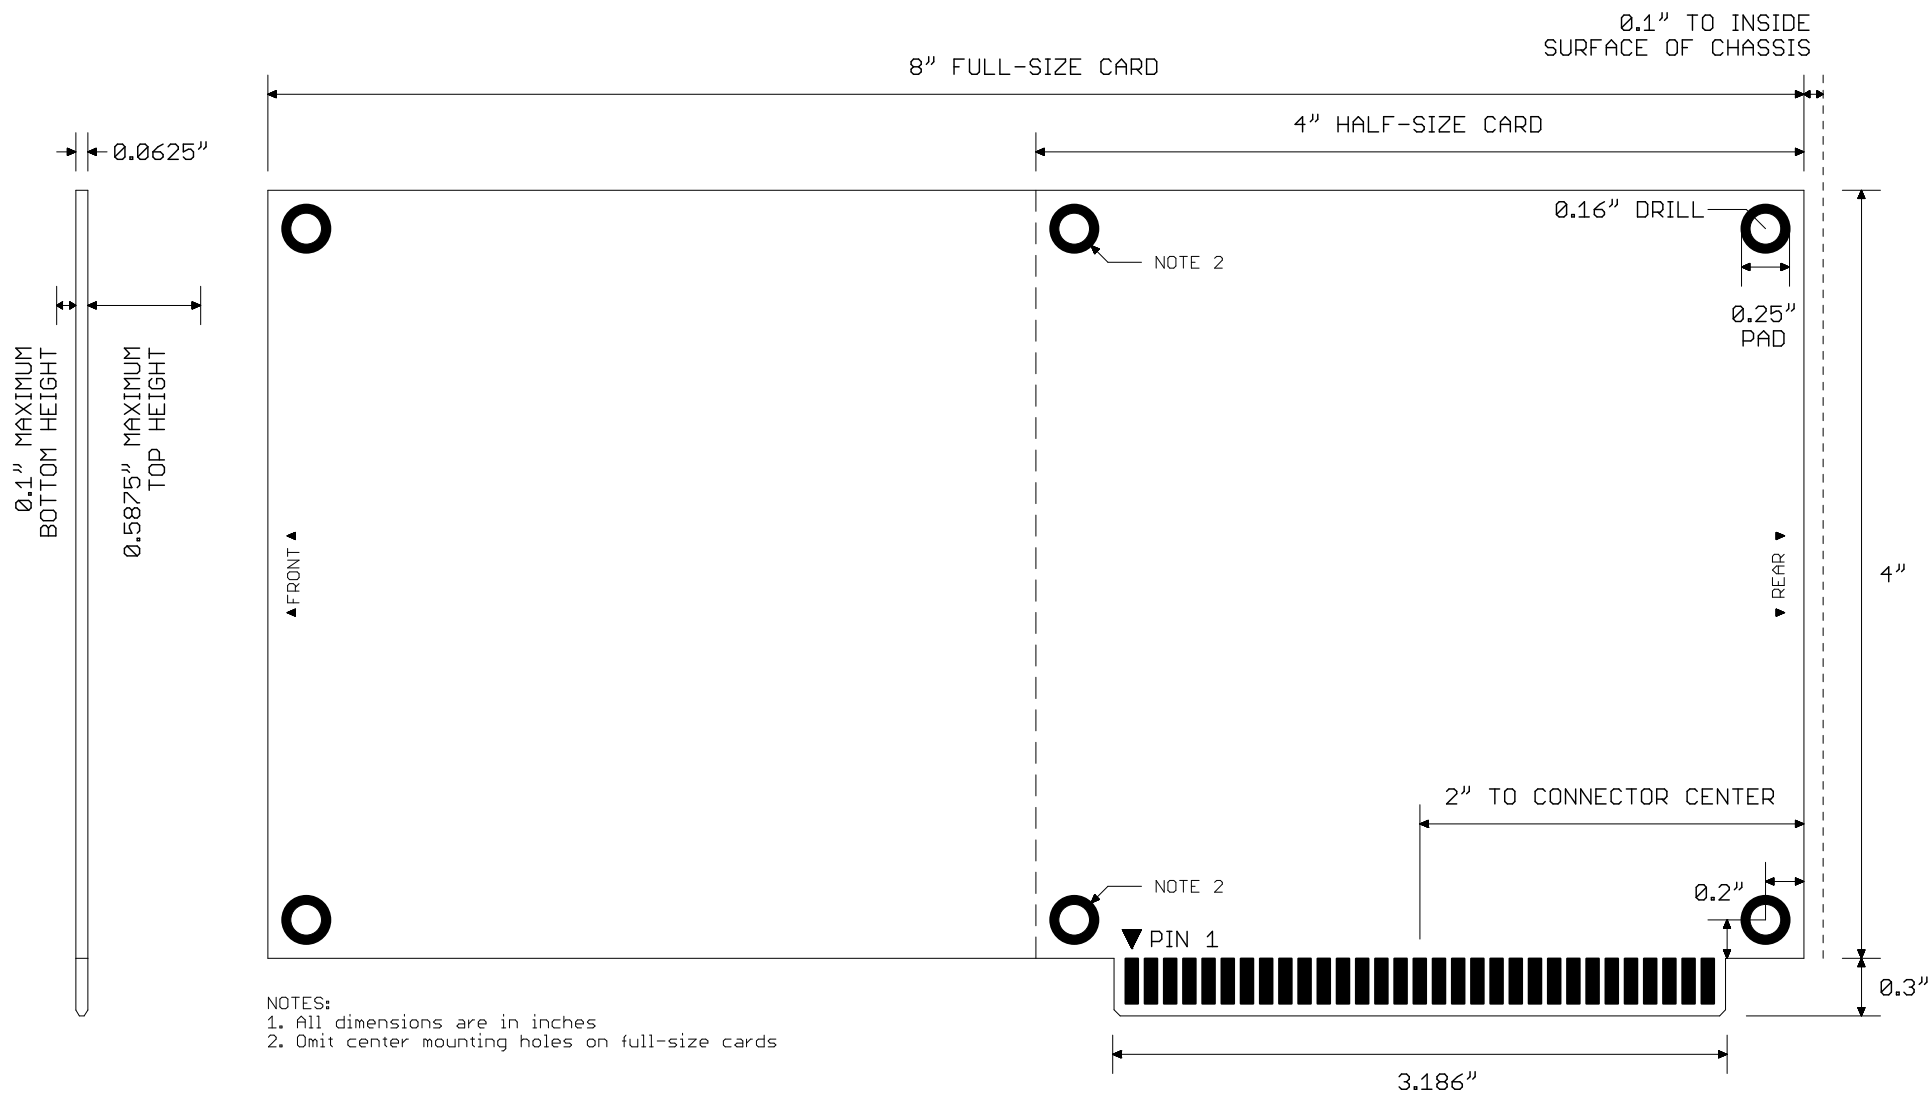

Figure 5-1: Card Physical Dimensions
- A card's dimensions must not exceed the overall dimensions shown in *Figure 5-1*.
- Card edge connectors must match the dimensions shown in *Figure 5-1*.
- The use of standard "full-size" and "half-size" card form-factors shown in *Figure 5-1* is strongly encouraged.